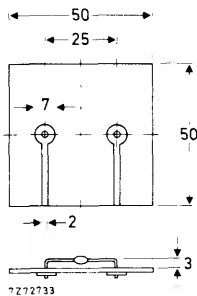

Fig. 2 Device mounted on a printed circuit board.
2. Thermal resistance from junction to ambient when mounted on a 1,5 mm thick epoxy-glass printed-circuit board; Cu-thickness $\geq 40\text{ }\mu\text{m}$; Fig. 2